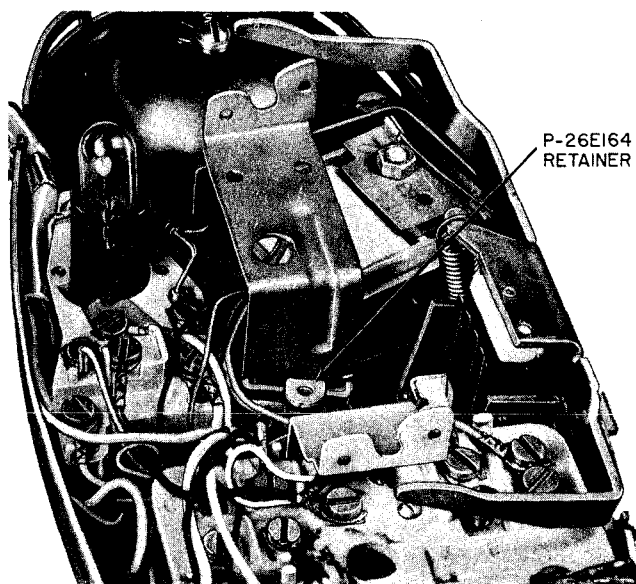

Fig. 7 — Installing Terminal Board Retainer in PRINCESS Telephone Set
- Insert the P-26E164 retainer in left-hand dial mounting bracket (Fig. 7).